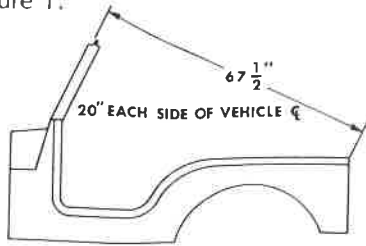

FIGURE 1
It may be necessary to achieve a better door fit. First, make **certain** windshield is properly adjusted as shown in Figures 1 & 2. After verifying proper windshield ad-
A. (5105 Top) Adjust CJ-5 windshield as shown in Figure 1.